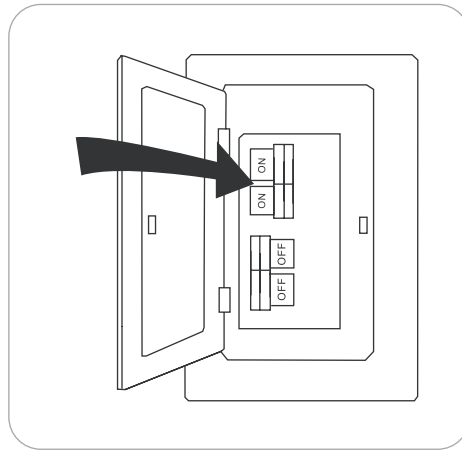

Figure 5.11
11. Turn on power to fan at breaker box and the wall switch (Figure 5.11). Assembly is complete.